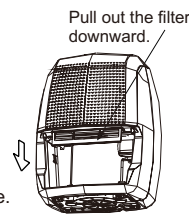

Fig. 11
- Pull out the filter downward.(see Fig.11).